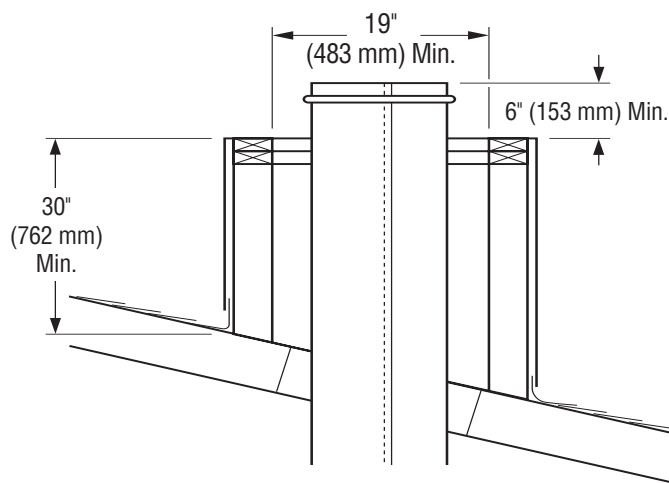

Figure 27 - Constructing Chase
- Construct chase as illustrated in Figure 27. **Note:** The shortest vertical side must be at least 30" high and the minimum inside dimension must be at least 19" as shown in Figure 27.
- Add pipe sections to chimney system as outlined in fireplace installation instructions until the last piece of chimney is a minimum of 6" above chase top (see Figure 27).